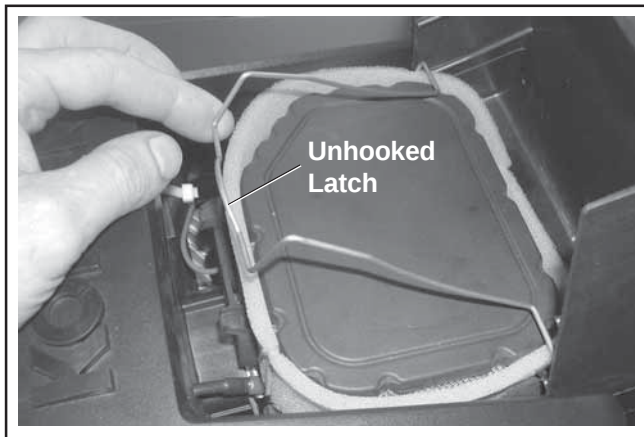

Figure 12. Unhooking Latch.
2. Unhook the latch and remove the precleaner from the air cleaner element, or remove as an assembly for servicing. Make sure the base and the sealing area is clean before reassembly is performed. See Figure 12.
2. Unhook the latch and remove the air cleaner element and precleaner (if equipped). See Figure 12.